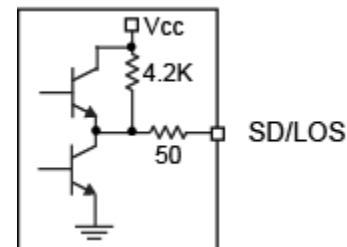

Figure 4. Simplified LOS/SD Output Structure
The SY88349NDL generates a chatter-free signal-detect (SD) or LOS LVTTTL output, as shown in Figure 4. A highly-sensitive signal detect circuit is used to determine that the input amplitude is too small to be considered a valid input. LOS asserts high if the input amplitude falls below the threshold sets by LOS/SDLVL and de-asserts low otherwise. SD asserts high if the input amplitude rises above threshold set by LOS/SDLVL and de-asserts low otherwise. LOS/SD can be fed back to the JAM input to maintain output stability under the absence of an invalid signal condition. Typically, a 4.5dB to 5.5dB hysteresis is provided to prevent chattering.